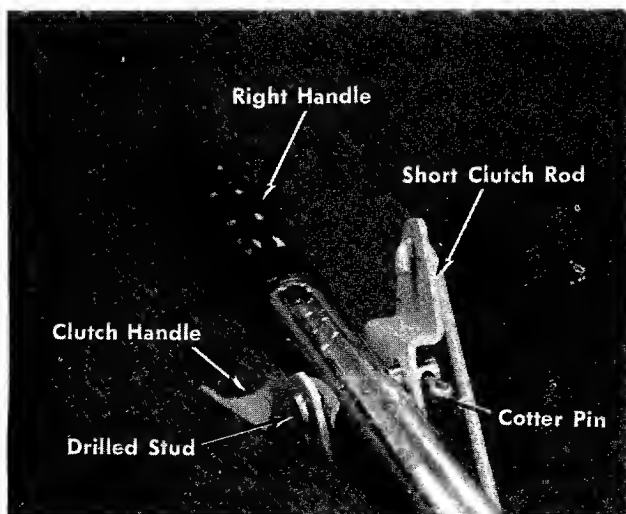

FIGURE 11
17. Hook the clutch handle to the hooked end of the short clutch rod and assemble the clutch handle to the right handle with the drilled stud and cotter pin. See figure 11.
With the clutch handle released as shown in figure 11, the drive pinion should not touch the wheels. When you squeeze the clutch handle the pinions should engage solidly into the tread of the wheels. If the pinions touch the wheels with the clutch handle released, take out the drilled stud and unscrew the short clutch rod from the ferrule.